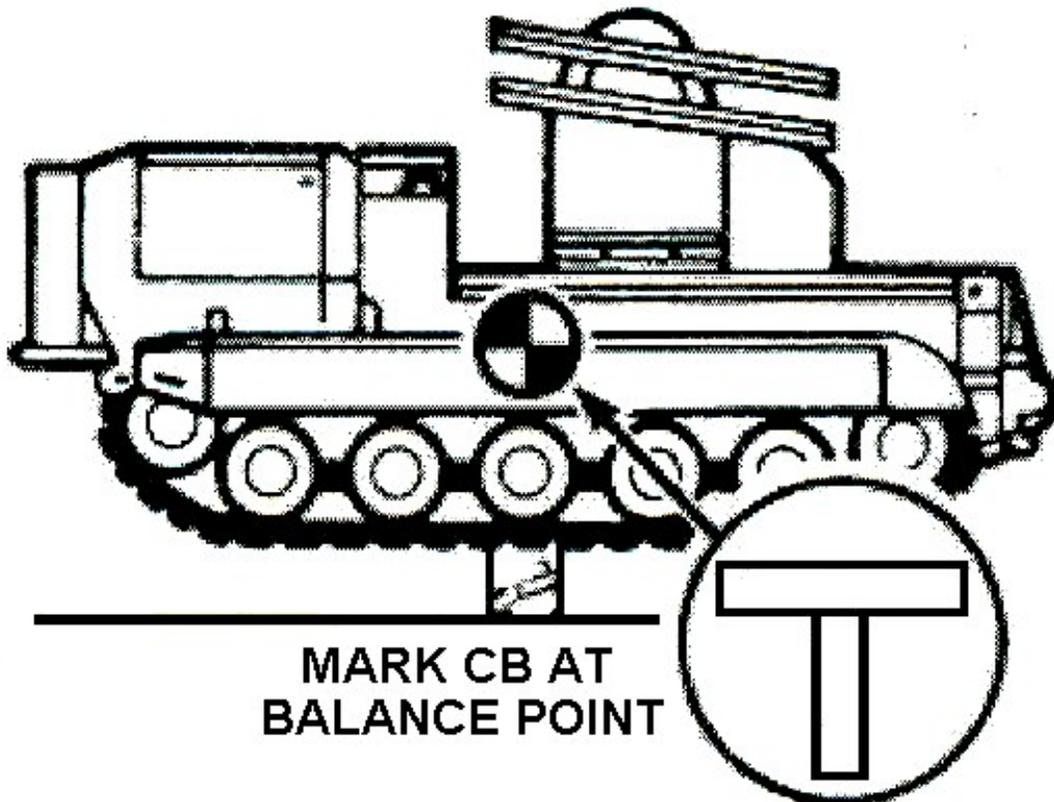

Figure 3-123
9. Direct personnel to mark the center of balance and gross weight of a tracked vehicle using prescribed procedures (see Figure 3-123).